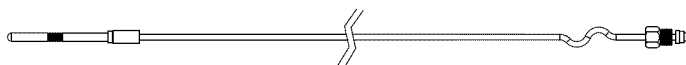

FIGURE 26.
4. Pull the thermocouple from the pilot assembly (Figure 26).
1. At least annually check the base-ring filter (Figure 26) for any dust or debris that may have accumulated on the filter screen. NOTE: If the water heater is located in an area that is subjected to lint and dirt, it may be necessary to check the base-ring filter more frequently.